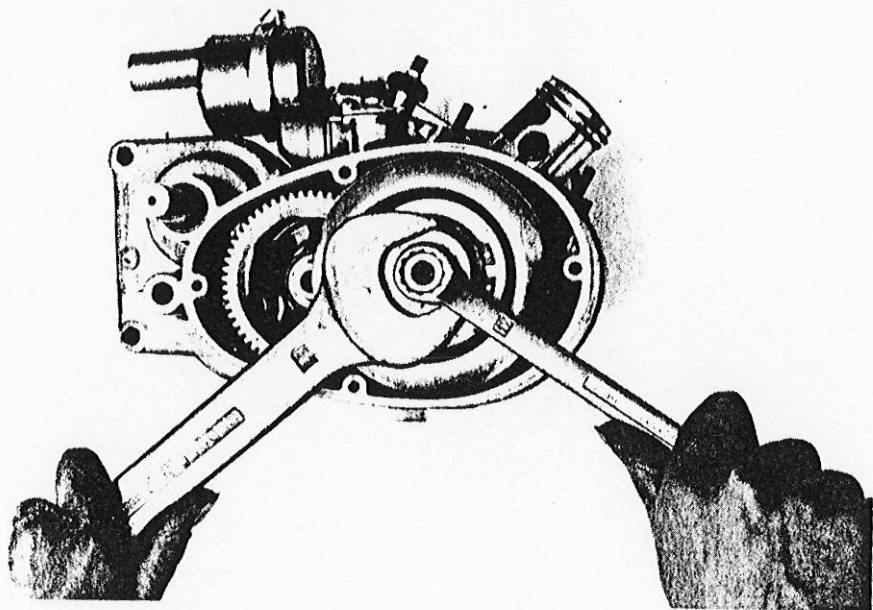

Fig. 14
- immobilise clutch plate centre locking ring with a 32 mm open end spanner and remove locking nut with a 17 mm ring spanner (fig.14)